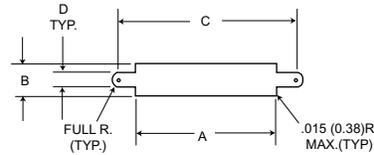
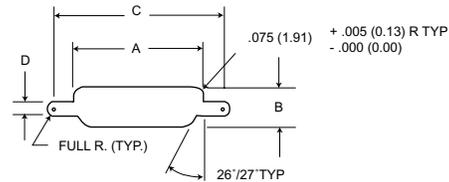

Figure 1
Figure 2
1. Front mounting (figure 1) and rear mounting (figure 2) accommodates #2-56 screws when jackscrew are used. See detail on page 24 when jackposts are used.
2. Front mounting is preferred. However, when rear mounting is necessary. use figure 2 dimensions.